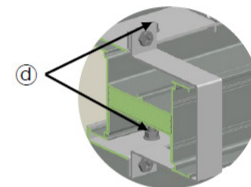

Figure 25. Fixing Bolts
5. Tighten the upper and lower fixing bolts. (Figure 25, d)